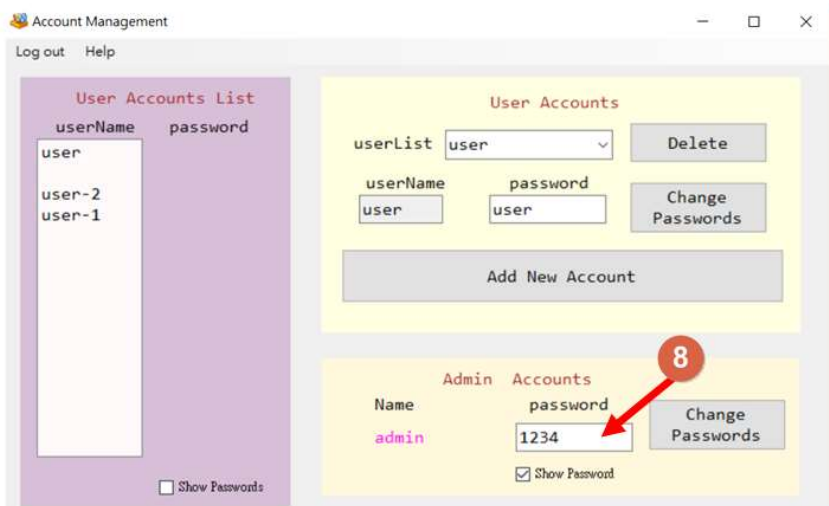

Figure 83
8. Check the password change ⑧ as shown in Figure 83.